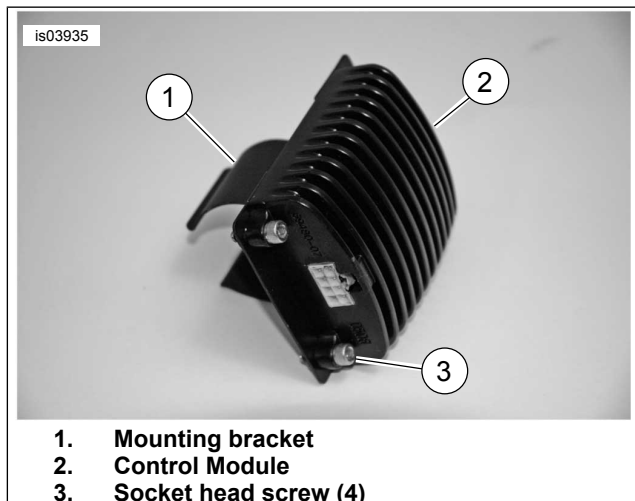

Figure 2. Install Control Module to Mounting Bracket
- See Figure 2. Install Control Module (2) from Turn Signal Kit to the mounting bracket (1) from this kit using four screws (3) from kit. Tighten the screws to 5.6–6.8 N·m (50–60 in-lbs).